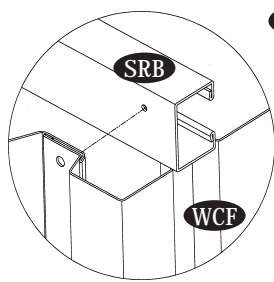

Fig.1
4. Place the sliding channel right (SRB) on top of the wall panel (WFR) from inside. See the position in fig.1. Line up the holes with wall panel. Use (S1) screws with washers to fix. See fig.2